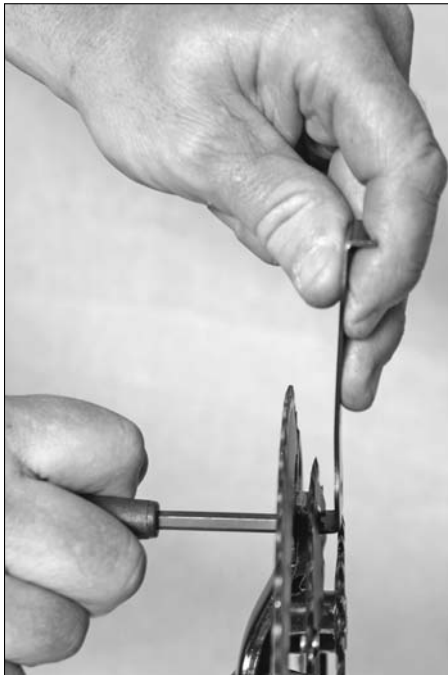

Figure 13-10:
2. Use a flathead screwdriver or a special slotted wrench (as shown in Figure 13-10) to hold the nuts in place while you use the Allen wrench.